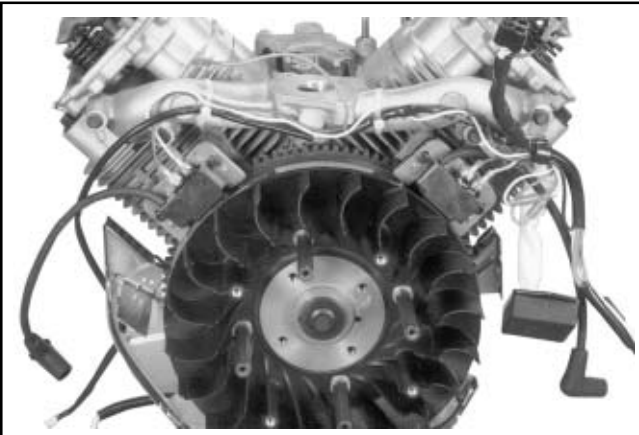

Figure 11-55. Connect Leads on SMART-SPARK™ Ignition Modules.
- On engines equipped with SMART-SPARK™, both modules are installed the same way - with the two tabs out. See Figure 11-55.